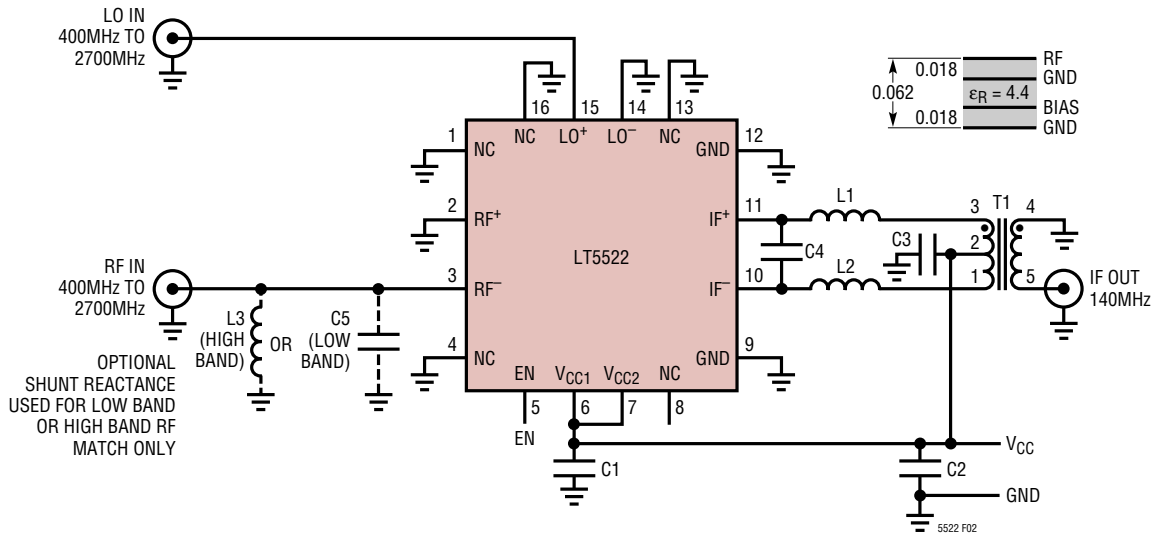
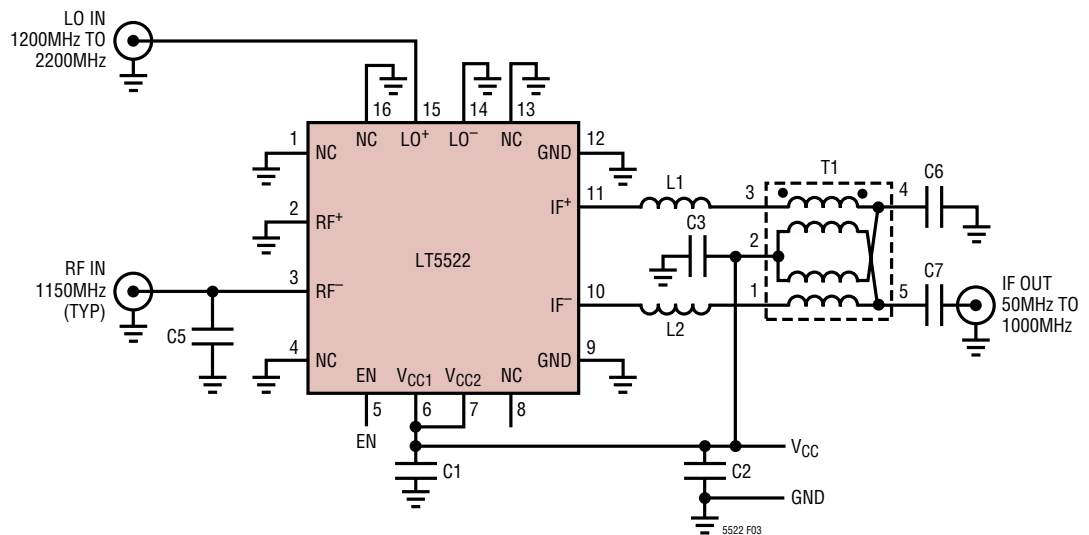

Figure 2. Test Schematic for Downmixer Application (140MHz IF) (DC689A)
Figure 3. Test Schematic for CATV Infrastructure Downmixer Application (50MHz to 1000MHz IF) (DC651A)
**TYPICAL AC PERFORMANCE CHARACTERISTICS** Low-band RF (C5 = 2.2pF) and high-band RF (L3 = 3.9nH) VCC = 5V, EN = High, TA = 25°C, PRF = -7dBm (-7dBm/tone for 2-tone IIP3 tests, Δf = 1MHz), PLO = -5dBm, IF output measured at 140MHz, unless otherwise noted. (Test circuit shown in Figure 2).
$V_{CC} = 5V$ ,  $EN = High$ ,  $T_A = 25^\circ C$ ,  $P_{RF} = 1150MHz$  at  $-12dBm$  ( $-12dBm/$ tone for 2-tone IIP3 tests,  $\Delta f = 1MHz$ ), LO swept from  $1200MHz$  to  $2200MHz$ ,  $P_{LO} = -5dBm$ , IF output measured from  $50MHz$  to  $1050MHz$ , unless otherwise noted. (Test circuit shown in Figure 3)
**TYPICAL AC PERFORMANCE CHARACTERISTICS** 450MHz Application (C5 = 8.2pF, 5mm away from Pin 3) VCC = 5V, EN = High, TA = 25°C, PRF = -7dBm (-7dBm/tone for 2-tone IIP3 tests, Δf = 1MHz), PLO = -5dBm, IF output measured at 140MHz, unless otherwise noted. (Test circuit shown in Figure 2)
**TYPICAL DC PERFORMANCE CHARACTERISTICS** (Test circuit shown in Figure 2)
The IF output can be matched for IF frequencies as low as 100kHz or as high as 1GHz. The RF, LO and IF ports are all differential, although the RF and LO ports are internally matched for single-ended drive as shown in Figure 2. The LT5522 is characterized and production-tested with single-ended RF and LO drive. Low side or high side LO injection can be used.
Two evaluation boards are available. The standard board is intended for most applications, including cellular, PCS, UMTS and 2.4GHz. A schematic is shown in Figure 2 and the board layout is shown in Figure 18. The 140MHz IF output frequency on the standard board is easily changed by modifying the IF matching elements. The second board, intended for CATV applications, incorporates a wideband IF output balun. The CATV evaluation schematic is shown in Figure 3 and the board layout is shown in Figure 19.